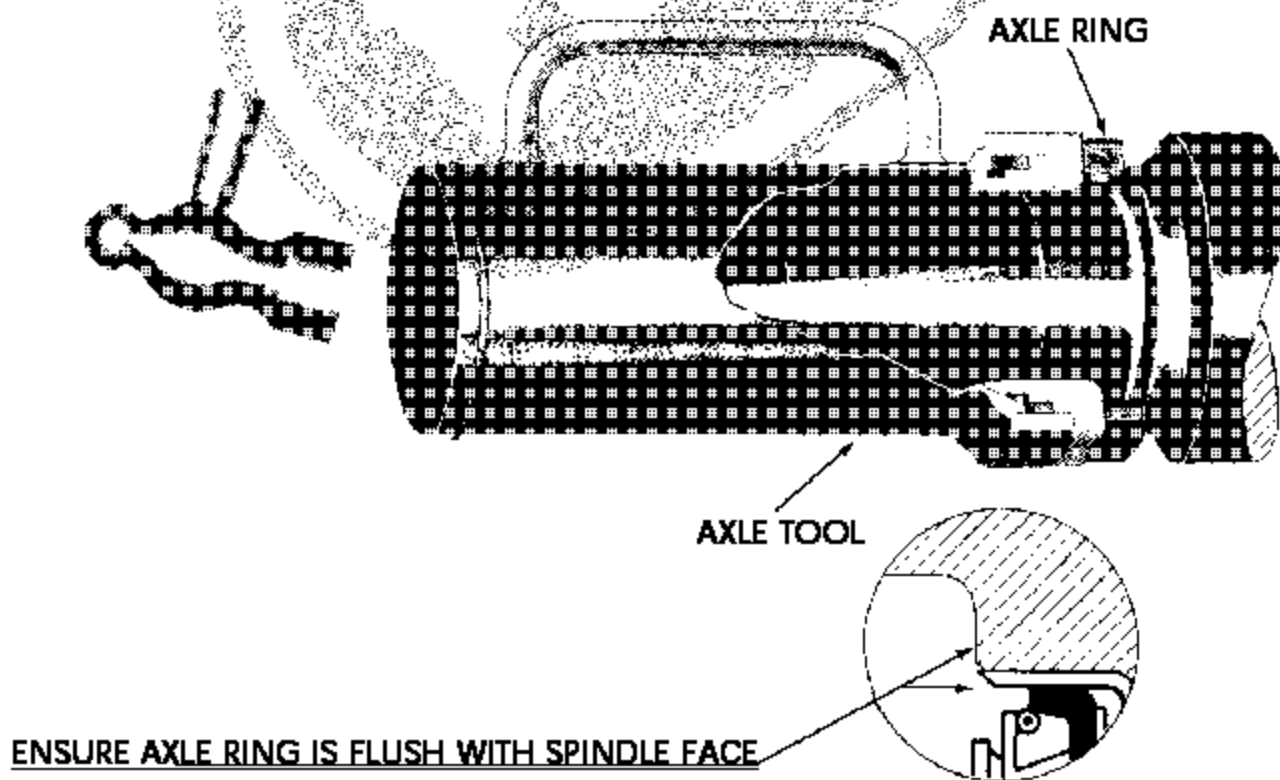

Figure 12. Axle Ring Installation
2. Thoroughly clean the spindle and axle shoulder. Remove any burrs on the shoulder and foreign matter in the threaded area. Apply a thin layer of No. 2 sealant to the O.D. of the axle shoulder (Figure 12).